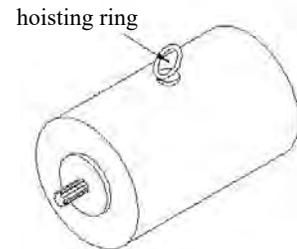

figure 2-79
(5) Hoisting directions of travel motor see figure 2-79